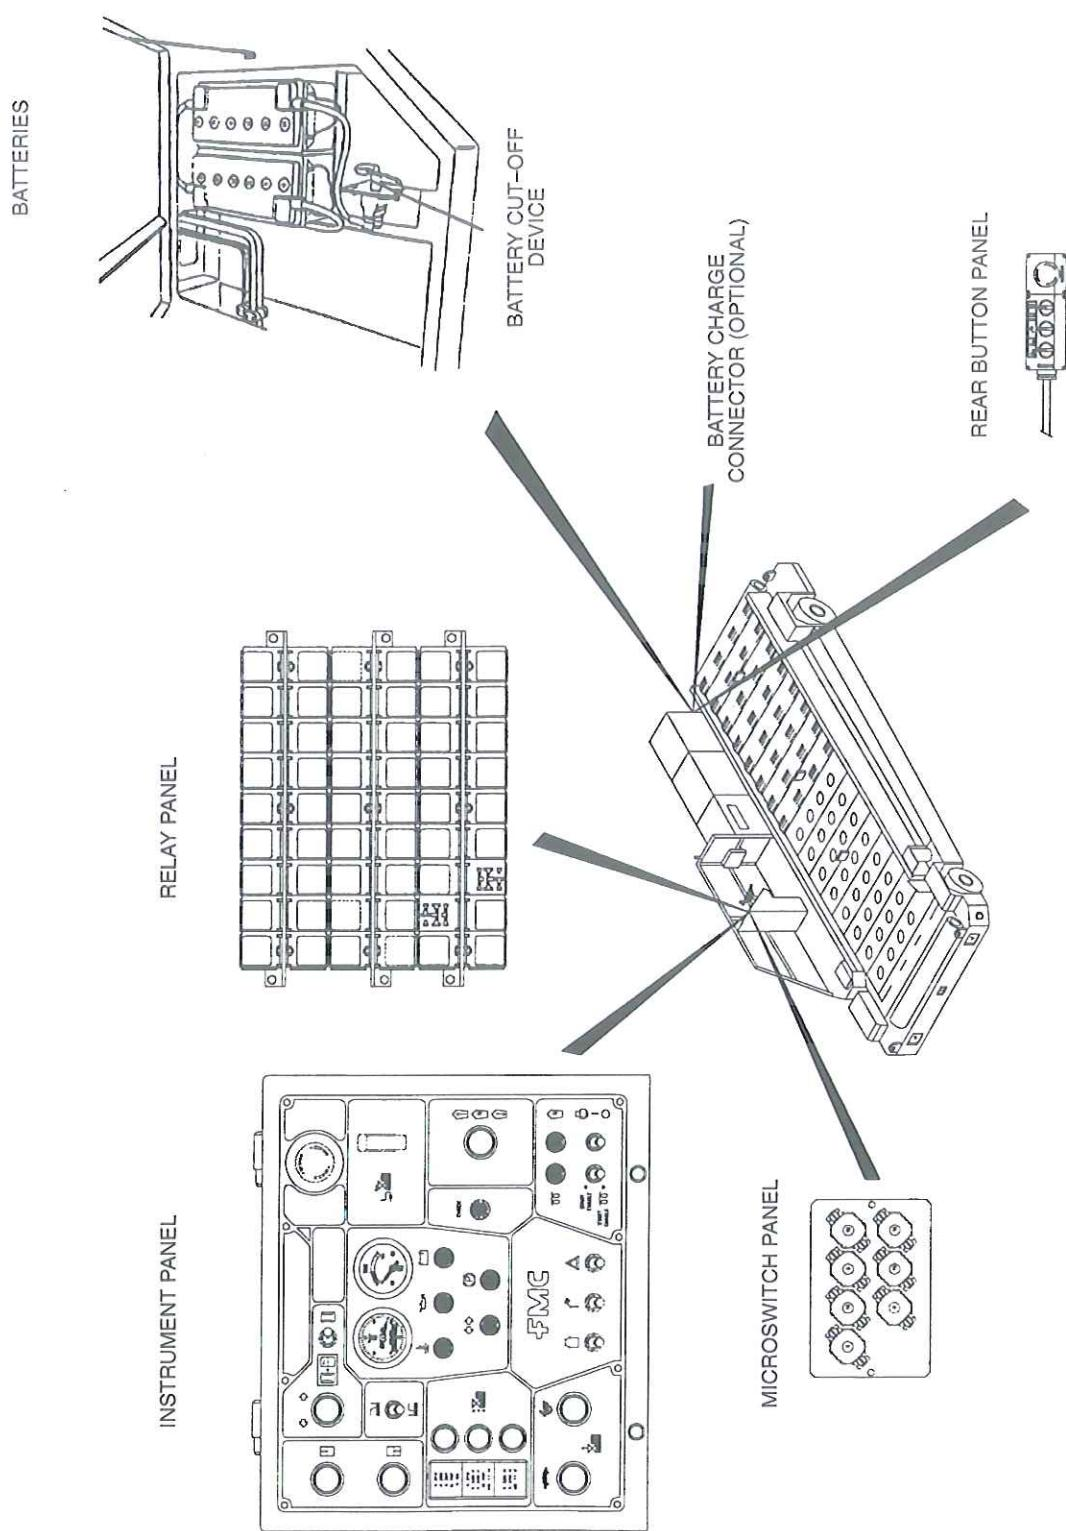

Figure 7
K. ELECTRICAL SYSTEM (SEE FIGURE 7)
(1) Wiring